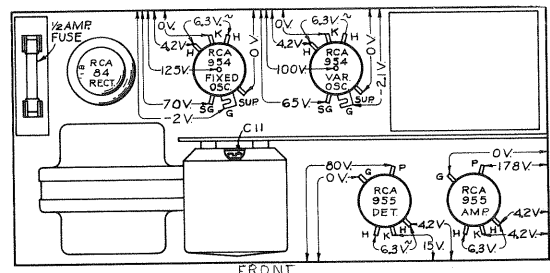
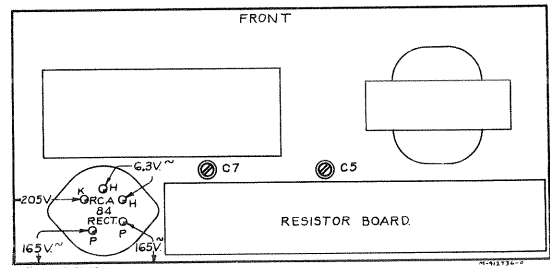

Figure 9—Radiotron Socket Voltages (top)
Figure 10—Radiotron Socket Voltages (bottom)
Place the instrument in operation with both the power and indicator switches to their "On" positions, the output control to its maximum (clockwise) position, and the main control to its 15,000-cycle position. Tune in a radio receiver accurately to 700 kc—either to a broadcast station or to an RCA TMV-133-A Crystal Calibrator. The crystal calibrator should be connected for d-c plate operation, using $22\frac{1}{2}$ volts or more with its output switch to its "Lo" position. This gives the seventh harmonic for the 700-kc signal. Connect a lead from any one of the output terminals of the Beat Frequency Oscillator to the antenna terminal on the receiver, leaving the receiver antenna connected. These operations will feed two signals into the receiver: (1) The broadcast station carrier or the Crystal Calibrator frequency, and (2) the fixed oscillator frequency from the Beat Frequency Oscillator. The second harmonic of the fixed oscillator will be used for indication since its fundamental is 350 kc. Adjust trimmer C-7 of the fixed oscillator (see figure 10 for location) until zero beat is heard in the receiver loudspeaker indicating that the fixed oscillator is correctly tuned to 350 kc. Disconnect the lead to the receiver antenna connection.
After proper alignment of the fixed oscillator, as explained above, set the main frequency control to its 30-cycle position. Set the "Cal. Adj." pointer to its vertical position and place "indicator" switch to "Cal.", leaving the output control set to maximum. Adjust trimmer C-5 of the variable oscillator (see figure 10 for location) until zero beat occurs between the two oscillators. This point will be indicated when the neon lamp goes out entirely. A pair of headphones may be connected across the 5,000-ohm output terminals to obtain the same indication of zero beat. The oscillators are now properly aligned but the "Cal. Adj." setting is not correct for operation and must be adjusted as described under "Operation."
Connect a 0-25-volt a-c meter, equivalent load 5,000 ohms, across the two output terminals marked "5000." If a 1,000-ohm-per-volt meter is used, connect a carbon resistor of approximately 6,000 ohms in parallel with the meter to obtain the equivalent 5,000-ohm load. Properly calibrate the instrument as described under "Operation." Place indicator switch to "On" and advance the output control to maximum. Set the main frequency control to its 1,000-cycle position. Adjust trimmer C-11 on the i-f transformer (see figure 9 for location) for 18 volts output. This is accomplished by screwing the trimmer all the way in and then unscrewing it to obtain the correct voltage. This places the transformer tuning on the lower side of resonance.
Operating conditions of the basic circuits of this instrument may be determined by measuring the voltages applied to the tube elements. Figure 9 shows the voltage values from the socket contacts to ground and also those appearing across the heater contacts H-H on the four acorn-type Radiotrons on the top side of the chassis. Figure 10 shows the rectifier Radiotron voltages on the bottom side of the chassis. Each value as specified should hold within $\pm 20\%$ when the instrument is normally operative with all tubes intact and rated voltage applied. Variations in excess of this limit will usually be indicative of trouble.